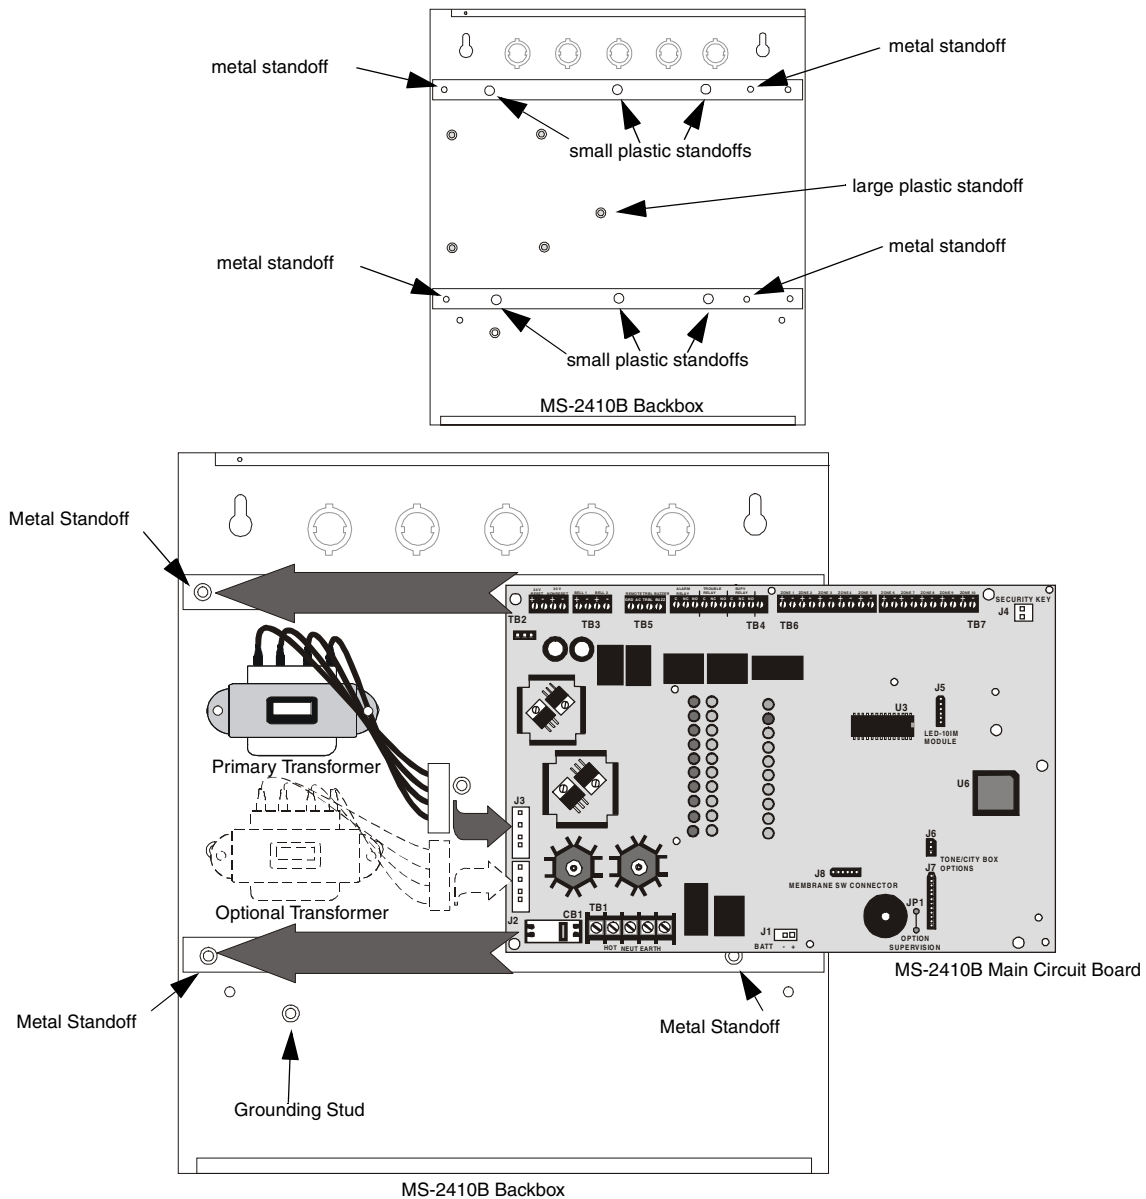

FIGURE 2-5: Main Circuit Board Installation
1. Install the supplied standoffs in the backbox as follows (refer to Figure 2-5 for locations):